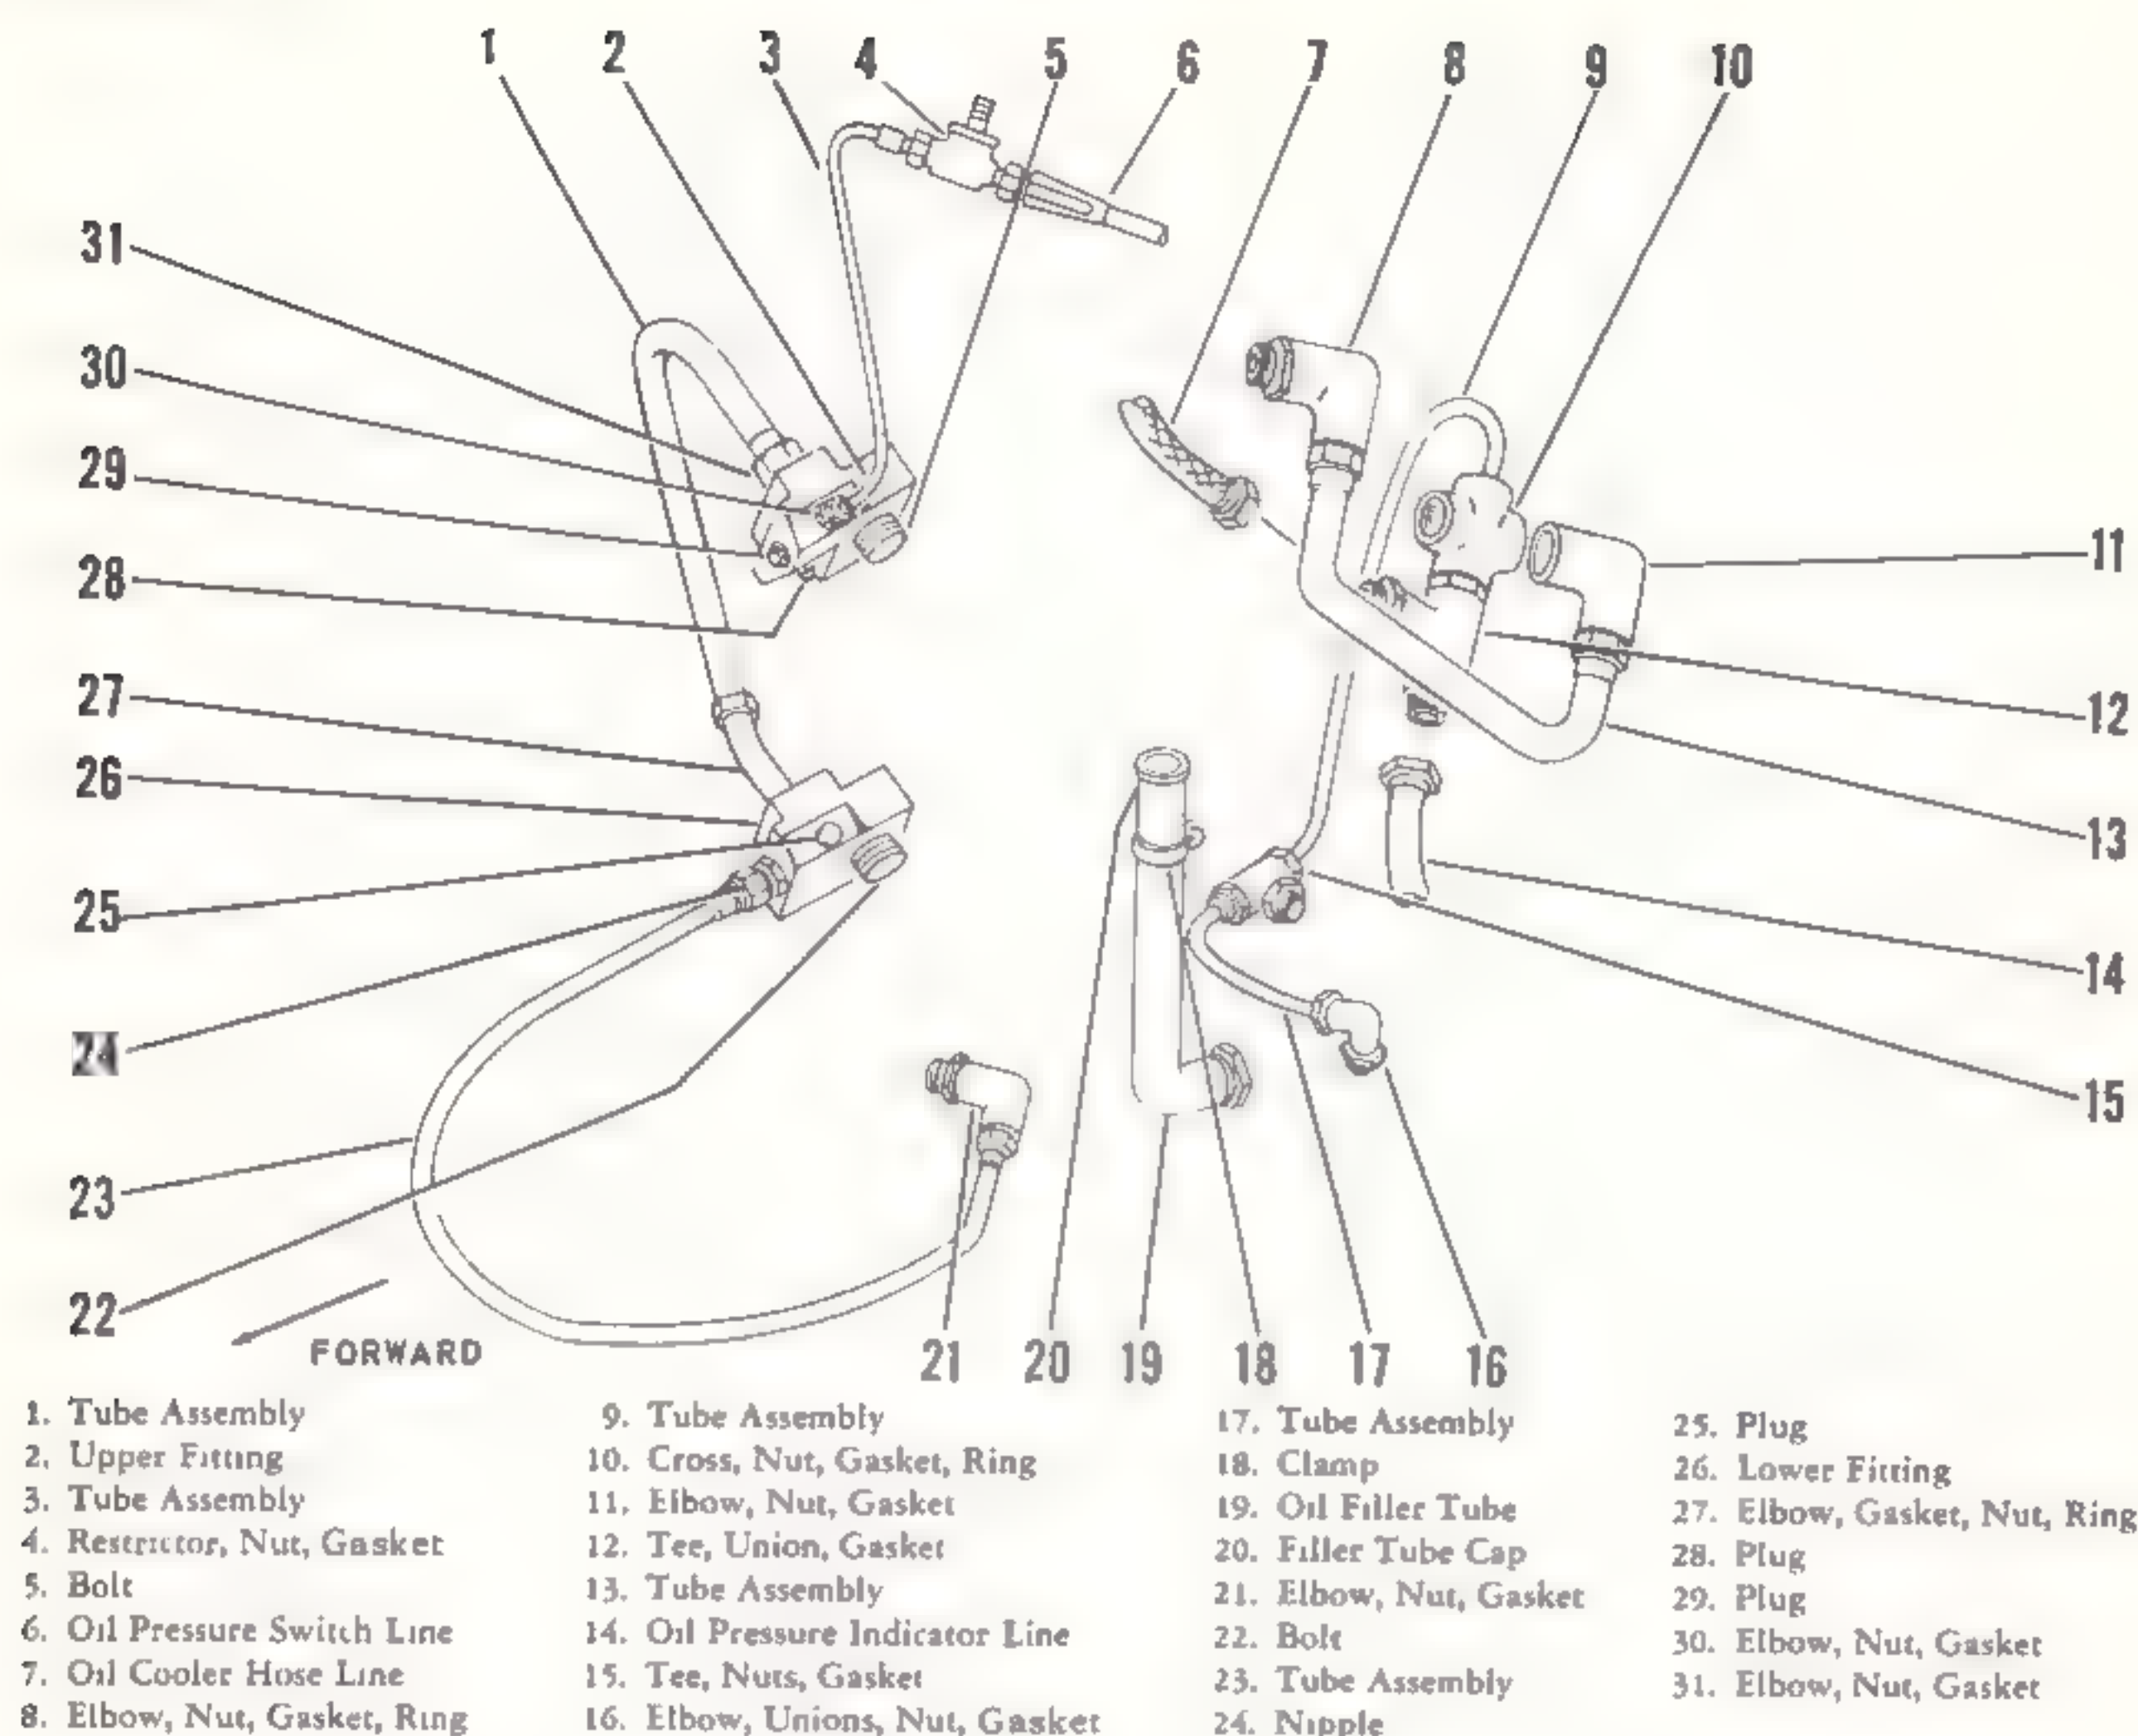

Figure 7-13. Main transmission oil separator installation (helicopters serial No. 54-2882 and subsequent)
c. Disconnect and remove tube assembly (23, figure 7-13) from elbow in port at lower left side of main transmission and from nipple (24) in lower fitting (26) at front of main transmission. Remove elbow, nut, and gasket (21) from main transmission and nipple (24) from fitting.
d. Disconnect and remove tube assembly (1) from elbow at lower fitting (26) and from elbow at upper fitting (2). Remove elbow, gasket, nut, and ring (27) from lower fitting and elbow, nut, and gasket (31) from upper fitting.
e. Disconnect and remove tube assembly (3) from elbow in upper fitting and from restrictor in port at top of main transmission. Remove elbow, nut, and gasket (30) from fitting. Disconnect and remove oil pressure switch line (6) from restrictor and the restrictor, nut, and gasket (4) from the main transmission.
g. Disconnect and remove tube assembly (17) from elbow at main transmission lower housing and from tee at lower right side of main transmission. Remove elbow, unions, nut, and gaskets (16) from lower housing and union and gasket from tee.
h. Disconnect and remove tube assembly (9) from reducer in tee at lower right side of main transmission and from reducer in cross at rear of main transmission. Remove reducer and gasket from tee and reducer and gasket from cross. Remove tee, nut, and gaskets (15) from main transmission.
i. Disconnect and remove tube assembly (13) from elbow in cross and from elbow in main transmission port. Remove elbow, nut, and gaskets (11) from cross and elbow, nut, gasket, and ring (8) from main transmission.
j. Disconnect oil cooler hose line (7) from reducer in tee at cross. Remove reducer and gasket from tee.
k. Disconnect oil pressure indicator line (14) from reducer in tee at cross. Remove reducer and gasket from tee.
l. Remove tee, union, and gasket (12) from cross. Remove cross, nut, gasket, and ring (10) from main transmission.
m. Release clamp (18) that secures oil filler tube (19) to transmission support. Unscrew nut and coupling from elbow at main gear box and remove oil filler tube (19).
a. Install plugs (25, 28, and 29, figure 7-13) in upper and lower fittings (2 and 26). Tighten to a torque of 95 to 110 inch-pounds.
c. Position oil filler tube (19) at elbow located on left side of main transmission and secure it with nut and coupling. Secure oil filler tube to main transmission support with clamp (18).